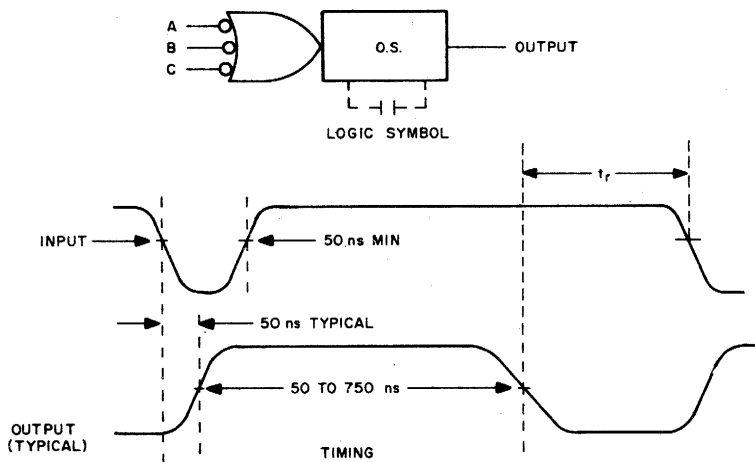

Figure 9-24 One-Shot Delay Timing and Logic Symbol Example
**One-Shot Delay**—Calibrated time delays of adjustable duration are generated by the Delay Multivibrator such as the M302. When triggered by a level change from a logical one to a logical zero, this module produces a positive output pulse that is adjustable in duration from 50 to 750 ns with no added capacitance. Delays up to 7.5 milliseconds are possible without external capacitance. Basic timing and the logic symbol are shown in Figure 9-24. The 100 picofarad internal capacitance produces a recovery time of 30 ns. Recovery time with additional capacitance can be calculated using the formula: